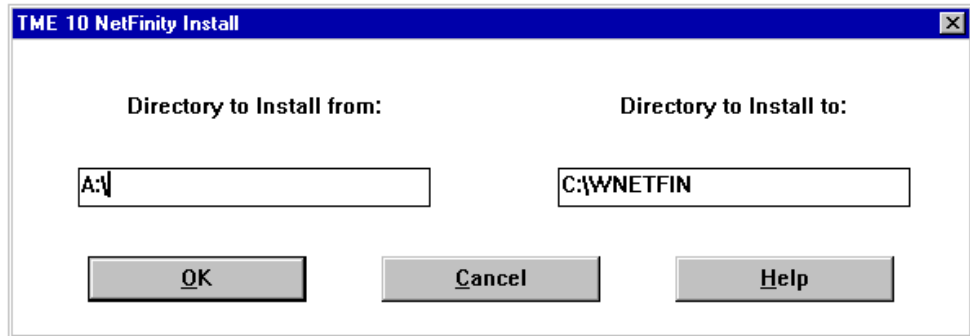

Figure 81. Drive Selection for TME 10 NetFinity Installation
3. A window will pop up indicating a default drive and directory where you will install the code. You can override the default by typing in a new location (see Figure 81 on page 109). The installation can be from a diskette, CD or a LAN drive. The same applies to the target drive. You should also define the subdirectory where the code will be installed.